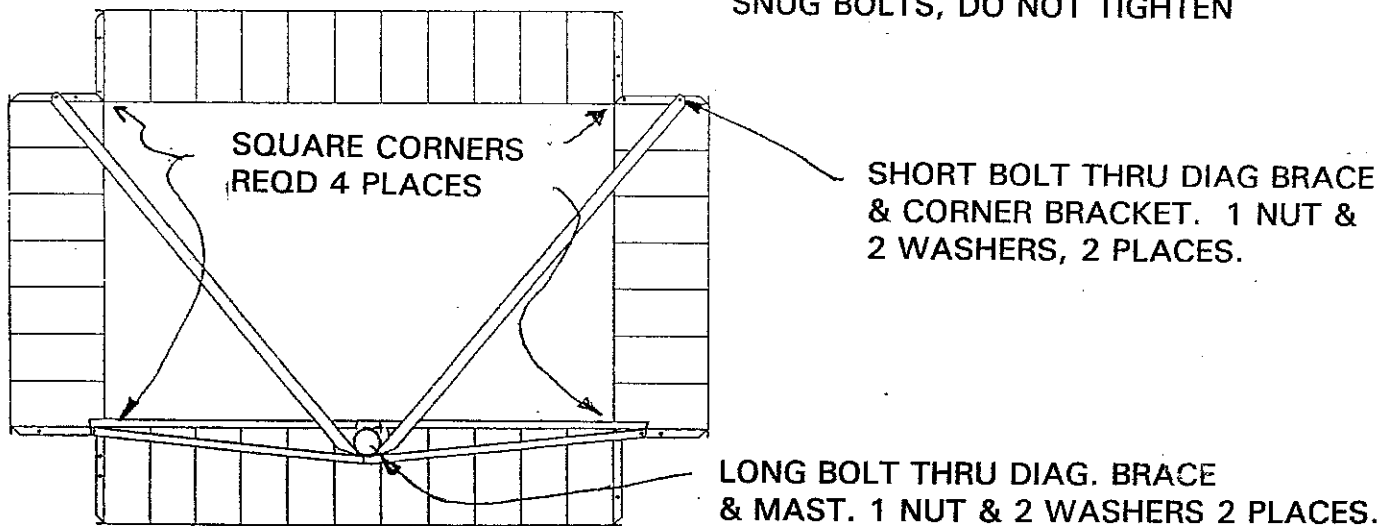

FIGURE 2.1-6
- STEP 10:** Attach both the left-hand and right-hand lower, diagonal braces (items# 6,7- having four holes each) to the mast pipe with another 5.00" long bolt and 3/8" hardware. Mount the other end of the braces to the back corner of the frame using 1.00" long bolts and 3/8" hardware. You may have to shift the frame around to line up these parts. See figure 2.1-6.